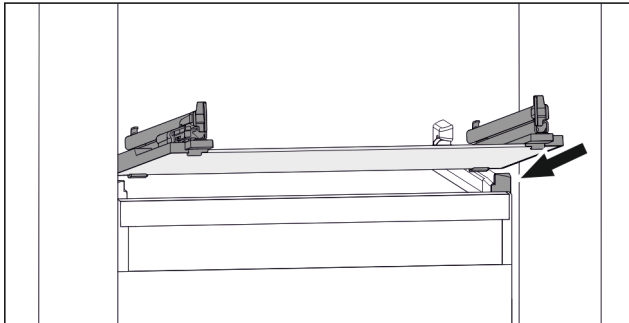

Fig. 149 Example illustration of glass shelf
- ▶ Position glass shelf at an angle behind the stoppers. (see Fig. 149)